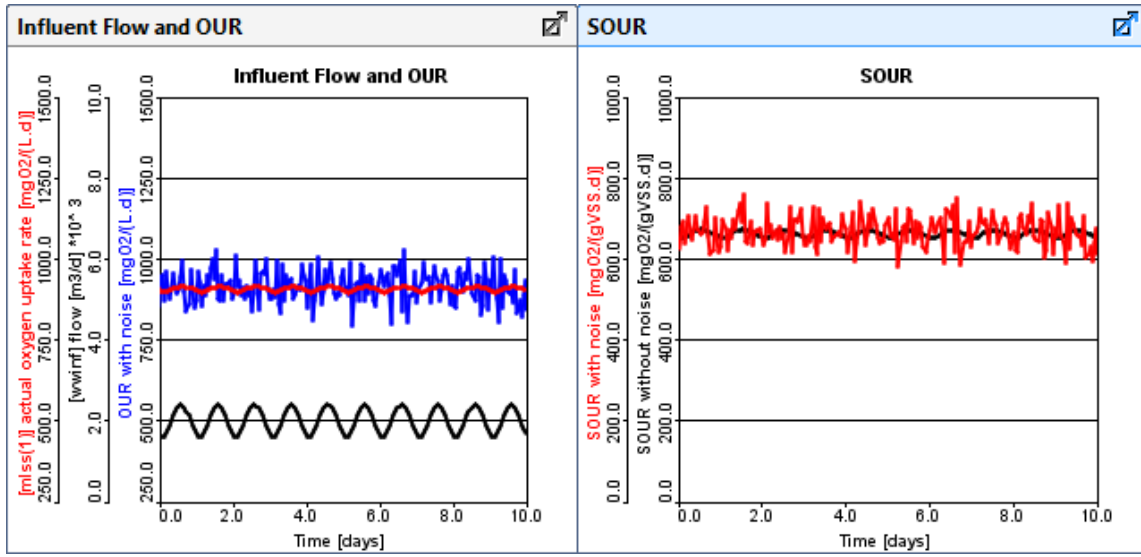

Figure 11-11 – Simulation Results with Noise
28. **Auto arrange the graphs and run a 10-day dynamic simulation** with the steady-state box checked. You should produce a graph similar to **Figure 11-11**.